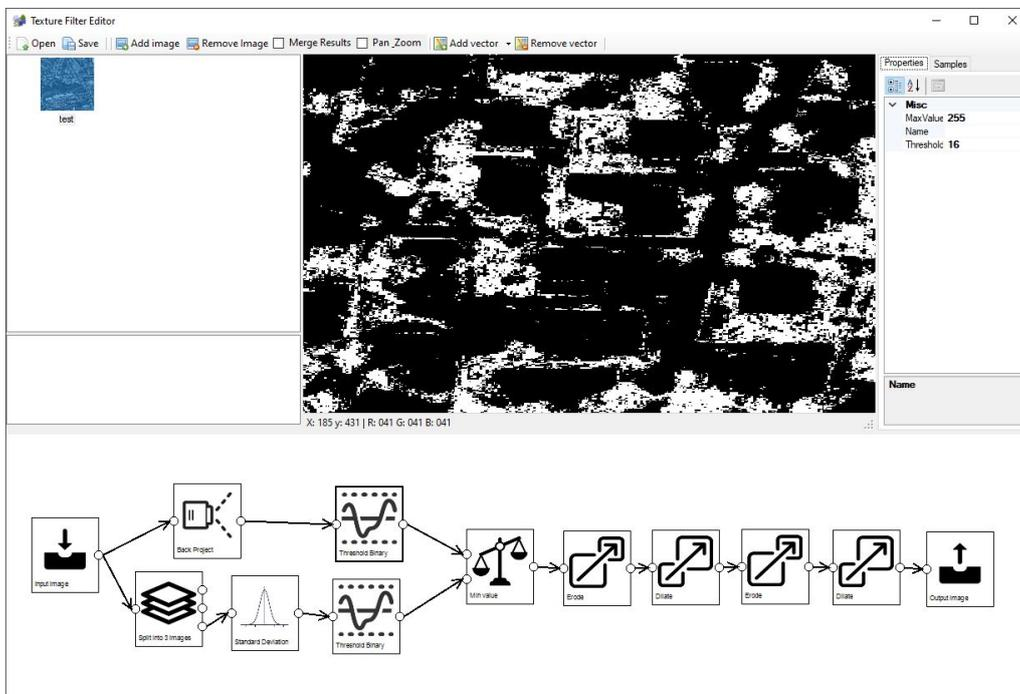

Figure 6.17: Applying a threshold to the detected vegetation
3. Binary threshold with a value of 16 to select only the areas which are likely to be vegetation, see Figure 6.17.